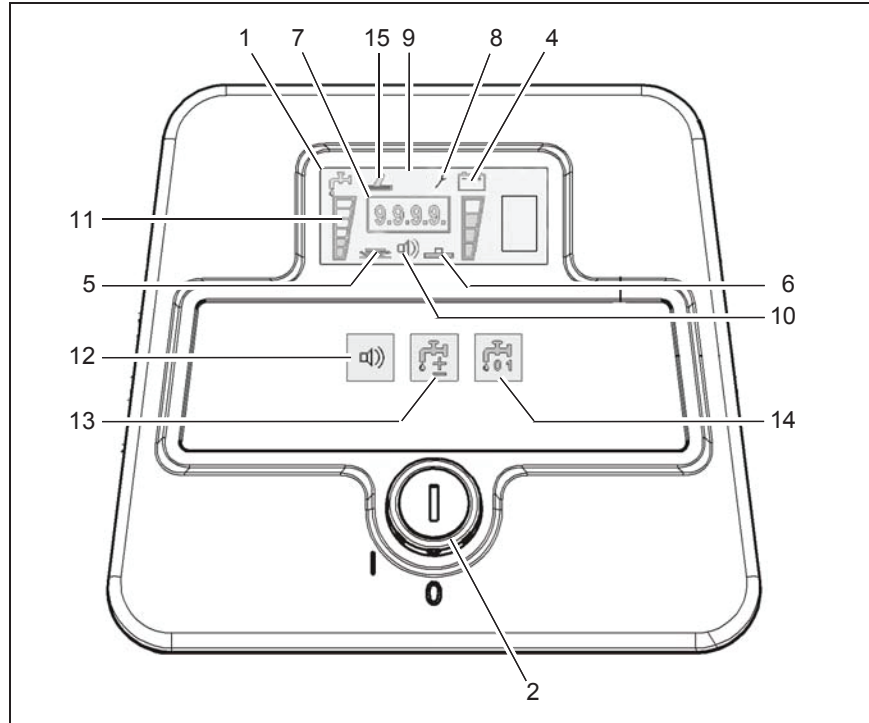

Fig.4
3. Switch on clear water supply by means of tip-switch (Fig. 4/14).
4. Adjust fresh water amount by means of tip-switch (Fig. 4/13).
Display (Fig. 4/1)
LDS indicator (Fig. 4/4)
Symbol brush drive (Fig. 4/5)
Symbol suction turbine drive (Fig. 4/6)
Hourmeter (Fig. 4/7)
Service indicator (Fig. 4/8)
Silence Kit tip symbol (optional) (Fig. 4/10)
Clear water dosage symbol (Fig. 4/ 11)
Silence Kit tip-switch (optional) (Fig. 4/12)
Clear water dosage tip-switch (Fig. 4/13)
Clear water supply ON/OFF tip- switch (Fig. 4/14)
Scrubbing tool symbol (optional) (Fig. 4/15)